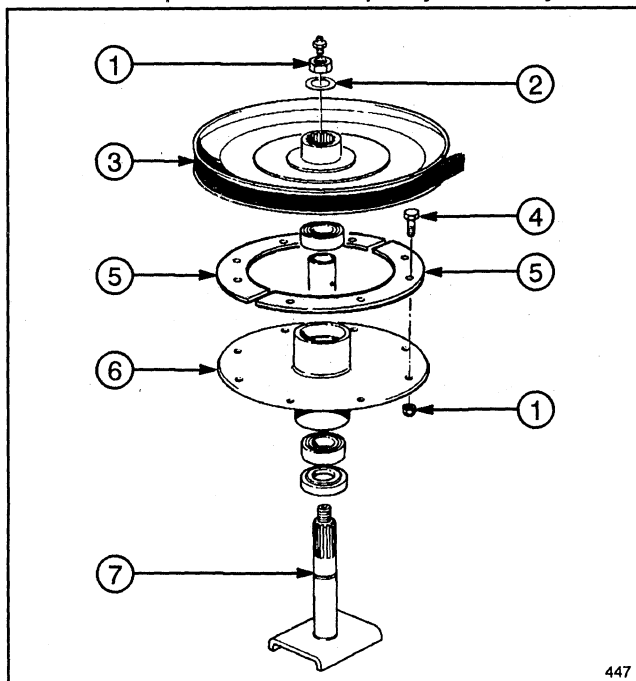

Figure 8
1. Remove lock nut and washer securing drive pulley on spindle (Fig. 8).
4. Remove (8) hex head cap screws and lock nuts securing spindle housing to deck (Fig. 8).
5. Align holes in (2) spacers with holes in spindle housing.
6. Secure spacers and spindle housing to deck with (8) hex head cap screws and lock nuts (Fig. 8).